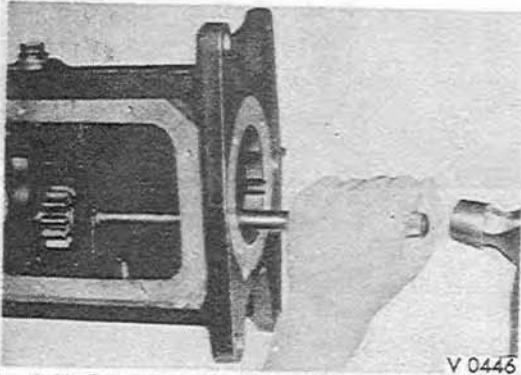

Fig. 3-22. Removing the reverse idle gear shaft from the transmission case.
15. Use a brass rod of approximately 16 mm diameter, and drive out the reverse idler gear shaft from the case. (Fig. 3-22)